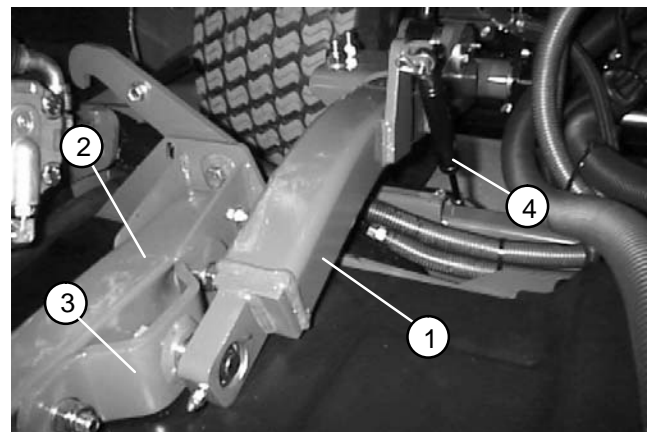

Figure 4
- B. If rod ends were removed from damper, apply Loctite #242 to threads and install on damper. Install damper assembly to lift arm with damper rod end toward deck (Fig. 4).